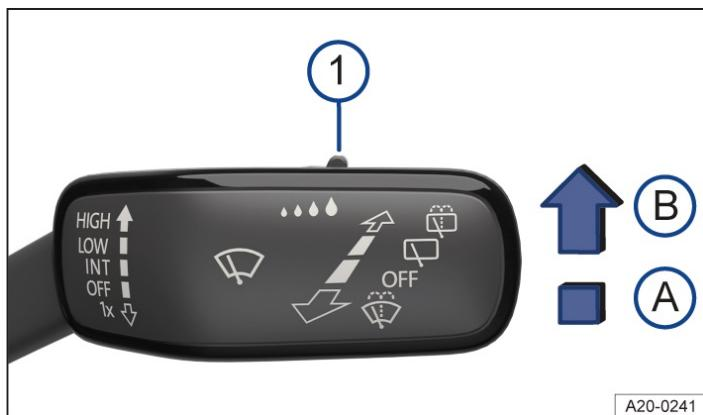

Fig. 1 On the right of the steering column: wiper lever.
1. Push the lever into the required position → *Fig. 1*.
The sensitivity of the rain and light sensor can be adjusted manually using the switch in the wiper lever → *Fig. 1* (1), → .